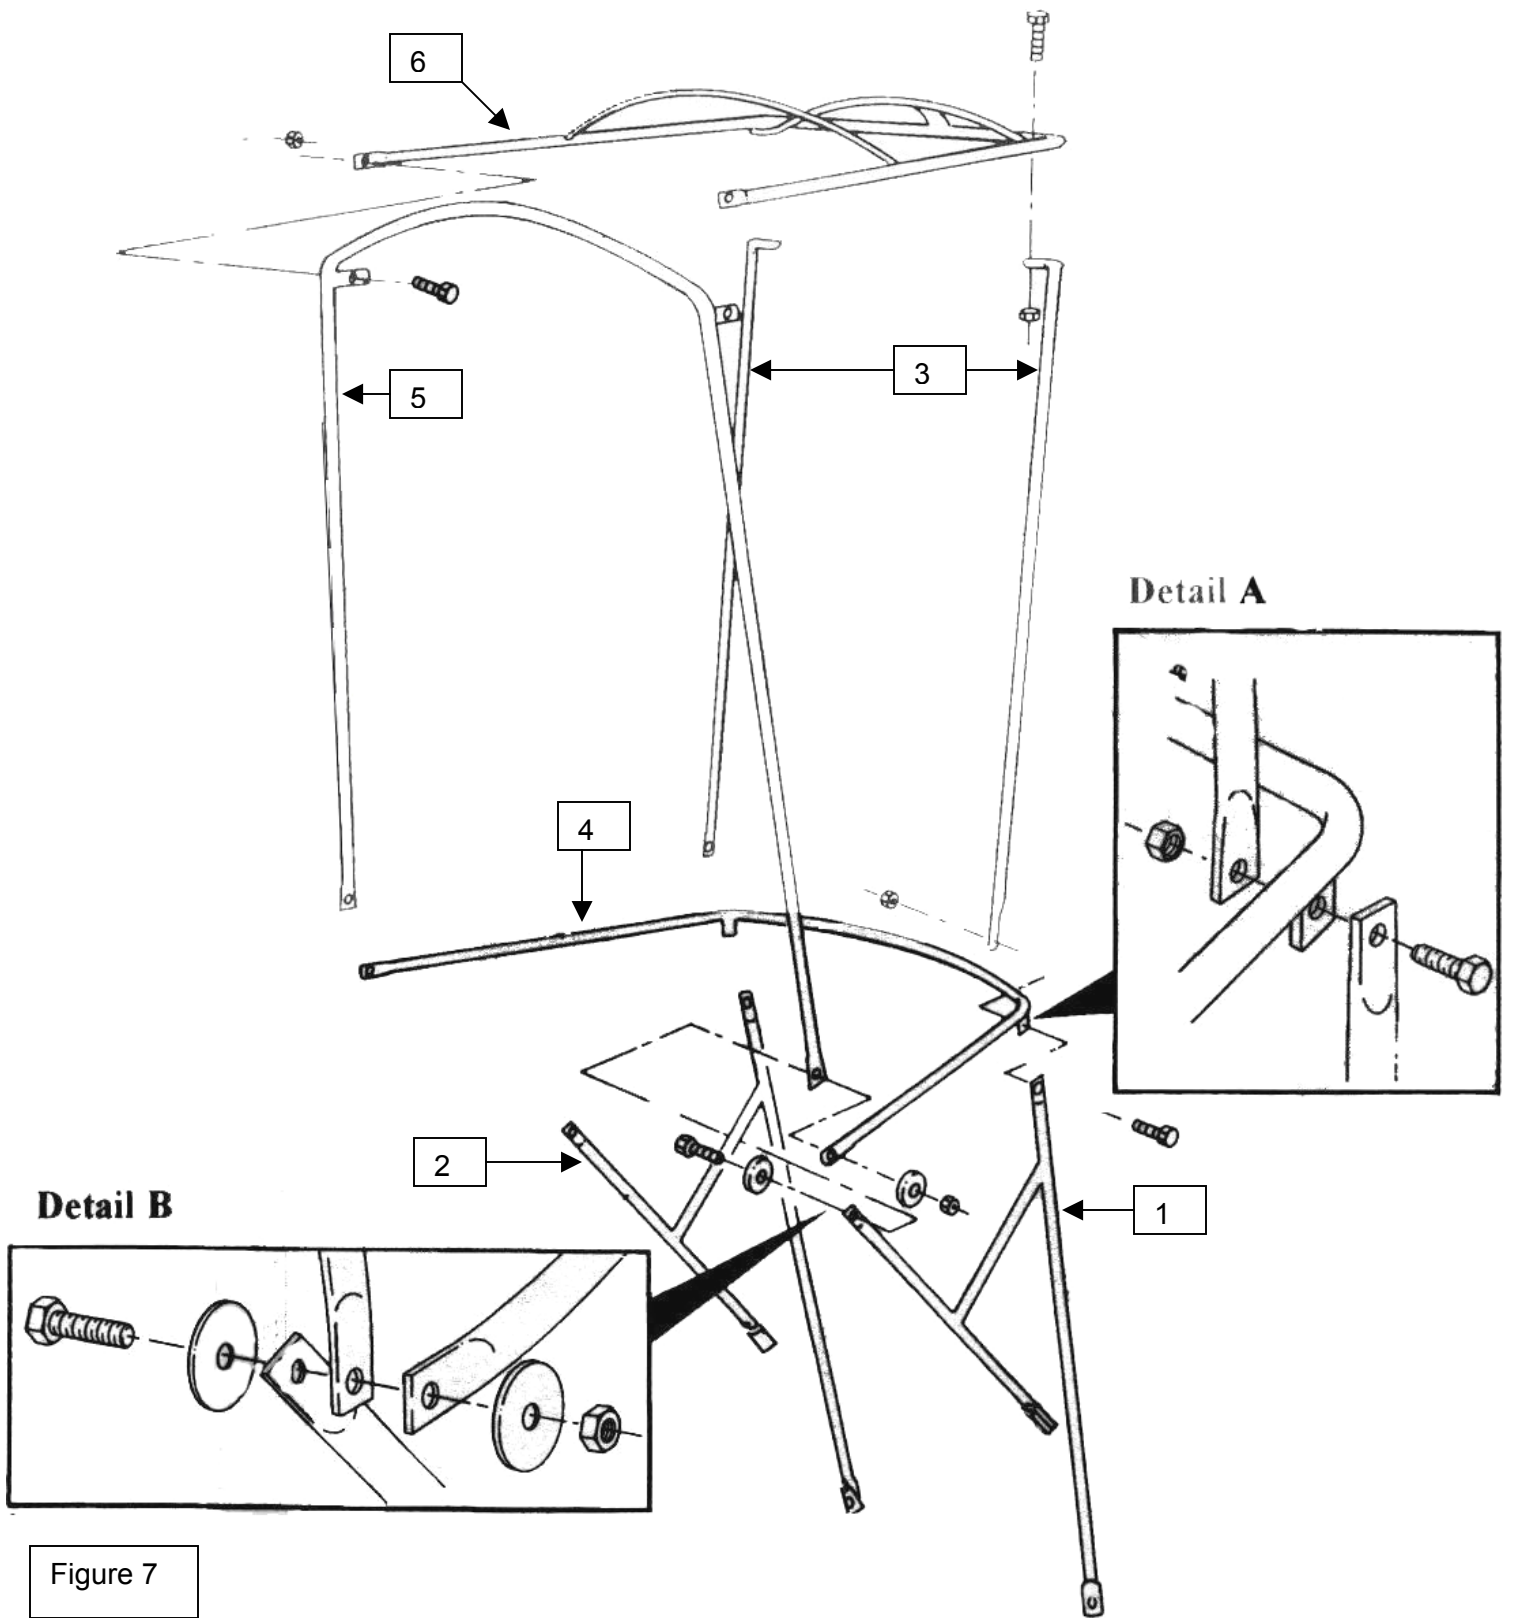

Figure 7
STEP 3; SEE FIGURE 7:
- A. Attach the Horizontal Bow (4) and the Front Posts (3) to the Brackets (1 & 2) using two 1/4" x 3/4" bolts and locknuts (refer to detail A).
STEP 4; SEE FIGURE 7:
- A. Mount each leg of the Rear Vertical Bow (5) to the Brackets and the Horizontal Bow using a 1/4 x 1" bolt, two 1/4" fender washers, and a locknut (refer to detail B).
STEP 5; SEE FIGURE 7:
- A. Attach the Top Frame (6) to the Rear Vertical Bow and the Front Posts using four 1/4" x 3/4" bolts and locknuts.
- D. **Tighten all the bolts** making sure that the Rear Vertical Bow (5) is at a **90-DEGREE** angle to the Horizontal Bow (4).